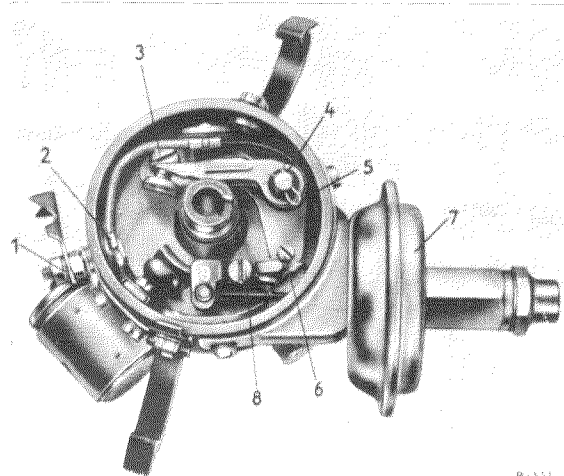

Fig. 15 — 23/3
3. Slacken the terminal nut (1) of terminal 1, slacken the lock nut and pull out the cable (2) to the contact breaker lever (Fig. 15—23/3).
4. Remove the lockwire (5) at the pivot pin for the contact breaker lever and also the washer (4).
5. Unscrew the fixing screw (3) for the contact holder.
6. Unscrew the cheese-head screw (8), paying attention to the lock washer.